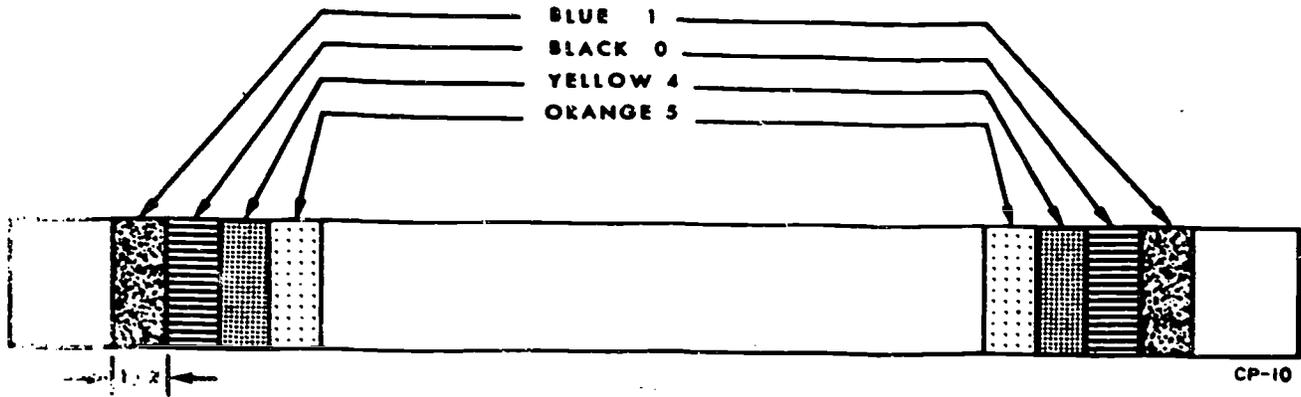
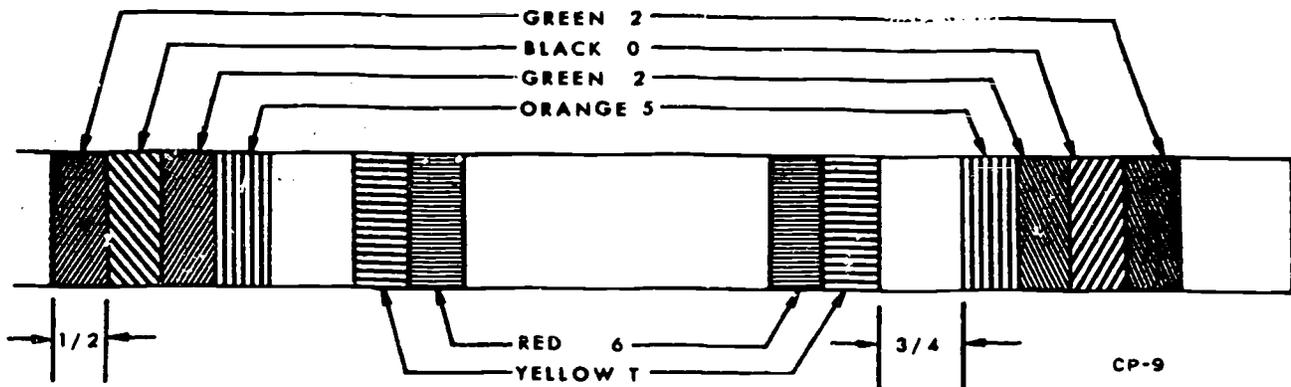

Figure 4-11. Color code for SAE-1045 steel.
Figure 4-12. Color code for AA-2025-T6.
Air Force color coding. For ease in identifying metals in storage, the material designation numbers are represented by stripes of paint at each end of the stock. The stripes are parallel and of equal width, 1/2 to 3/4 inch wide, and placed side by side and in sequence. When they are read from either end of the bar toward the center, the material designation numbers are shown in proper order. A space is left between stripes of the same color appearing side by side. This space is 1/4 inch or less in width. Ten colors are used to represent the various numbers and letters; they are shown in figure 4-10. Figure 4-11 shows the color coding for SAE-1045 steel and figure 4-12 for AA-2025-T6 aluminum. Note that, if they are read from either end toward the center, the numbers are in correct sequence. Note also that the temper designation colors are separated from the number designation colors by 3/4 inch. Two colors have been added recently to the color code. Aeronautical material specification and military specification metals of aircraft quality each require an additional stripe to indicate the condition of the quality of the metal. Gold is used to represent the letter Q and indicates aircraft quality. The commercial designation, American Iron and Steel Institute (AISI), Society of Automotive Engineers (SAE), and Aluminum Association (AA) numbers are used as the designation numbers.